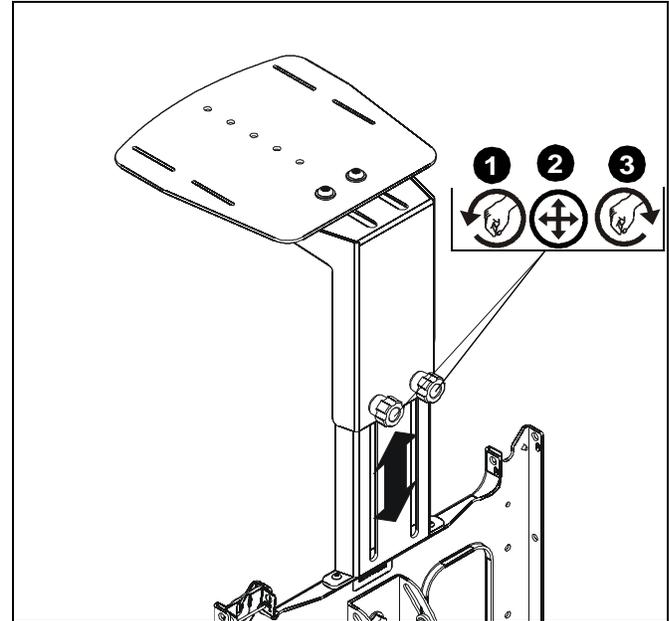

Figure 5
1. Loosen two adjustment knobs on the back of the video conferencing shelf (A). (See Figure 5)
2. Raise or lower shelf to desired height. (See Figure 5)
3. Tighten two adjustment knobs on the back of the shelf until mount is secure. (See Figure 5)